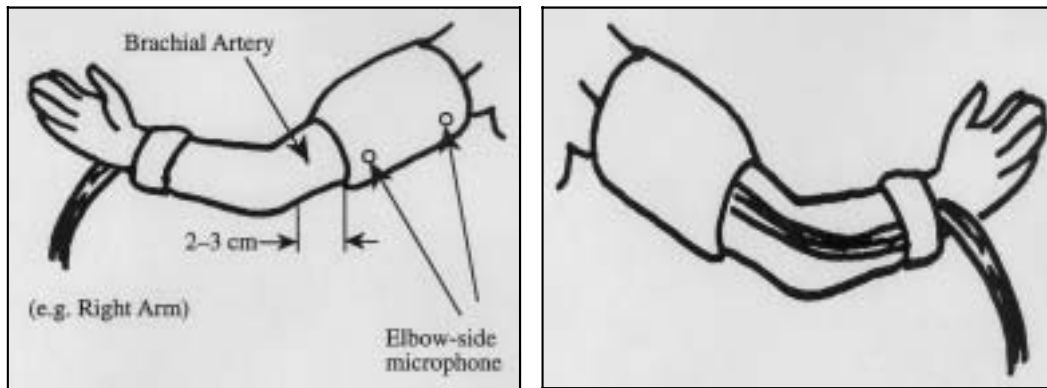

Figure 3-3. Site for placement of electrodes (2)
- See Figure 3-3 above for position of cuff on arm.